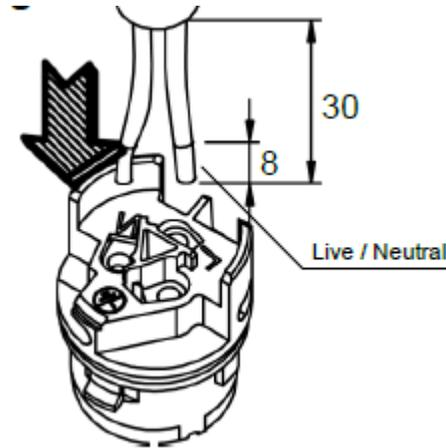

Fig. 1
2. Take the IP66 grommet and wire your cable into the screw terminals. (diameter= 9 to 12mm, 1.5 mm², Core rubber Insulated) (Fig 1).